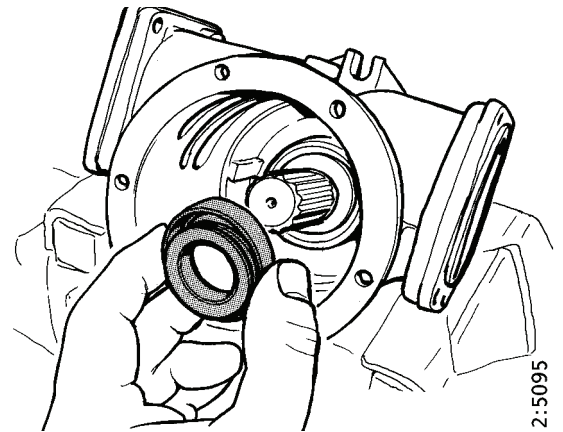

Figure 7-35
- Press the rubber sleeve into the seat in the housing (Figure 7-35).